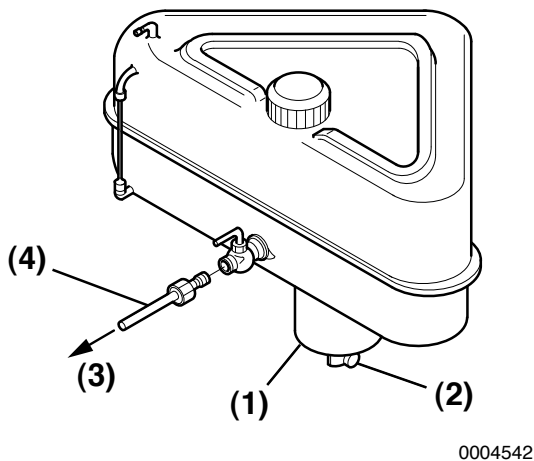

Figure 1
1. Put a pan under the drain cock (Figure 1, (2)) to catch fuel.